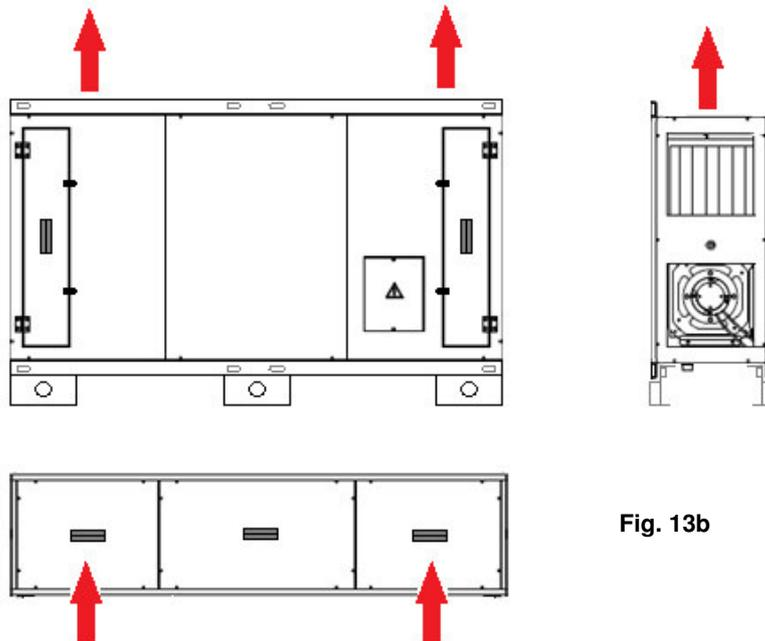

Fig. 13b
- for vertical unit, by removing an upper end panel provided with recessed handle (**fig. 13b**)